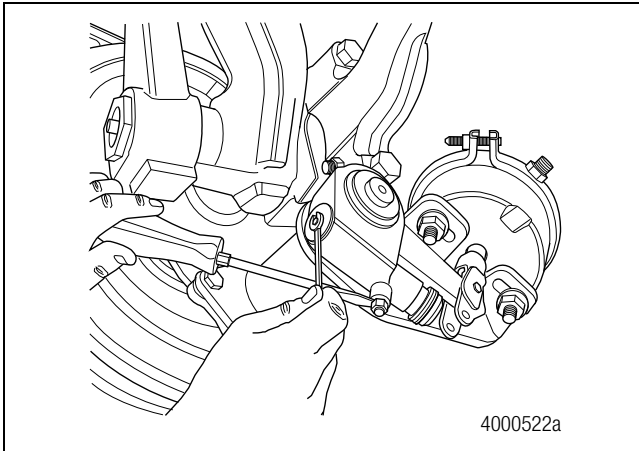

Figure 6.48
4. If necessary, back off the brake at the slack adjuster until the brake shoes retract and the drum clears the linings. Figure 6.48.